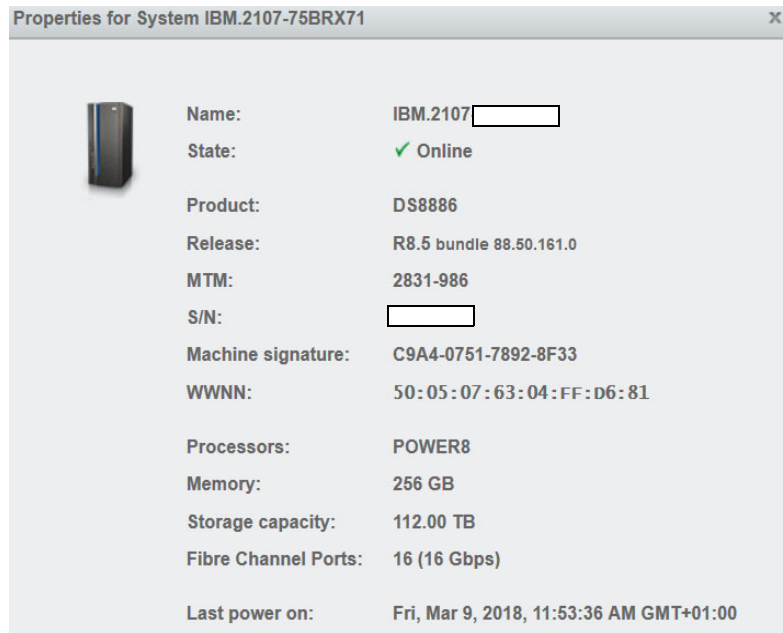

Figure 7-6 SFI WWNN value
3. Select **Properties** to obtain the WWNN value, as shown in Figure 7-6.